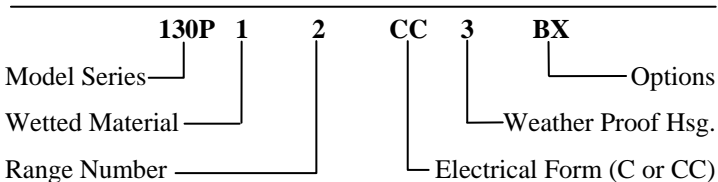

Figure 3. Part Number Breakdown
The part number contains information about which configurations and options are included in your Adjustable Pressure Switch. To determine this, compare the part number of your unit with the information in Figure 3 below and the following tables.
* See Figure 3 on page 9 for the part number breakdown